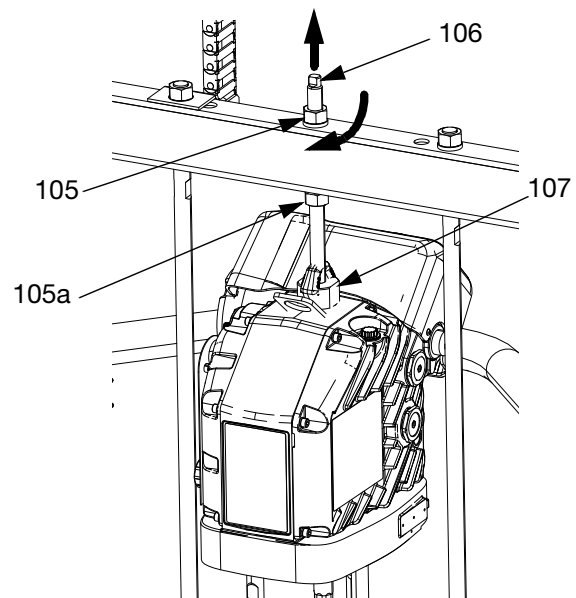

FIG. 24
- a. Use wrench on nut (105) on top of ram bar to lower driver onto displacement pump. See FIG. 24 on page 31. Thread nut (105) up and tighten it under ram bar. Tighten nut (105) below the crossbar to 25 ft-lb (34 N•m) maximum.